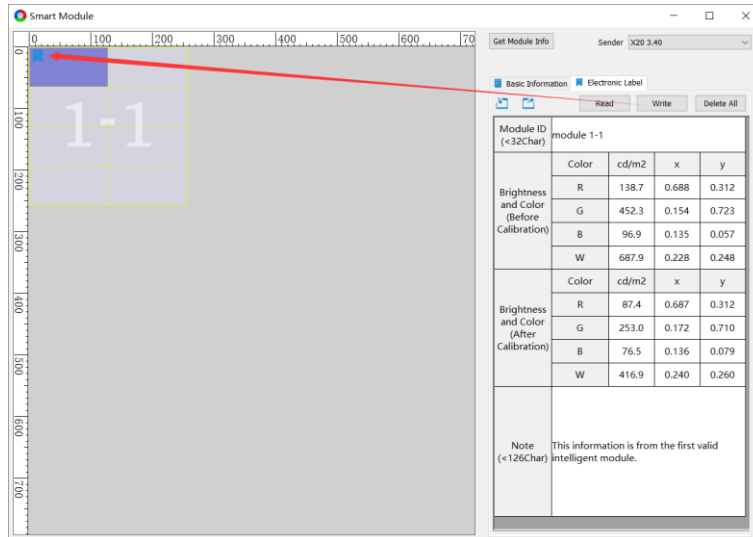

Fig 11.3.3 Write electronic labels
Step 3: Click **Write** to write the electronic label to the selected module. Once the label is written, the icon  will be displayed at the top left of the module in the drawing area, as shown in Figure 11.3.3.